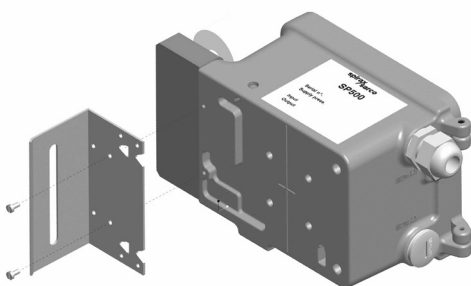

Fig. 31
- 5.2.5** Locate the protection plate onto the back of the SP500 positioner housing and fix in place (Figures 31 and 32).